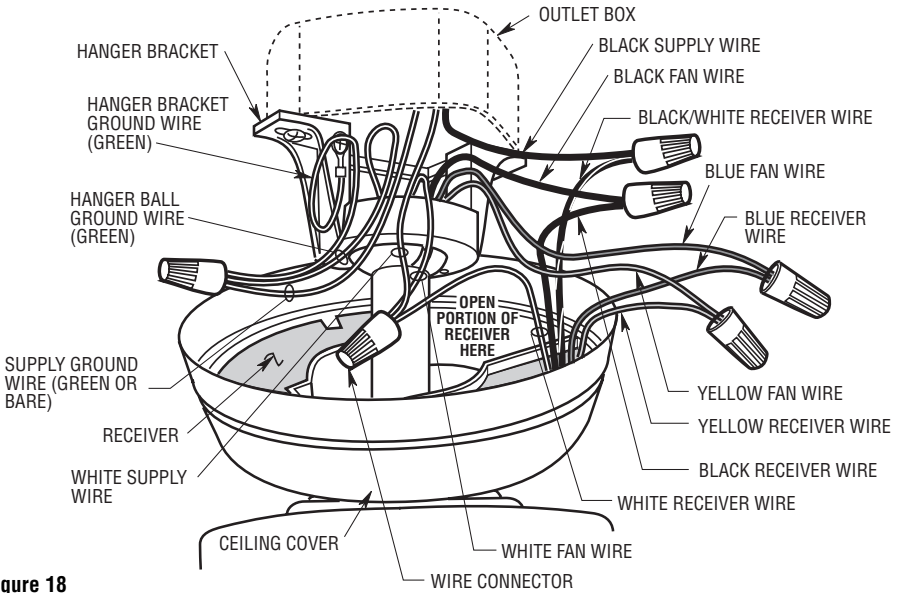

Figure 18
- 17. Pull the wire leads, coming from the end of the downrod, and the supply wires through the open side of the hanger bracket. (Figure 18).
- 18. Position the RC188/RC212 Receiver in the ceiling cover so that the flat side of the receiver faces up and the open portion of the receiver is to the right, as shown in Figure 18.
- 19. Using wire connectors (supplied), make wiring connections as follows (Figure 18 and 19):